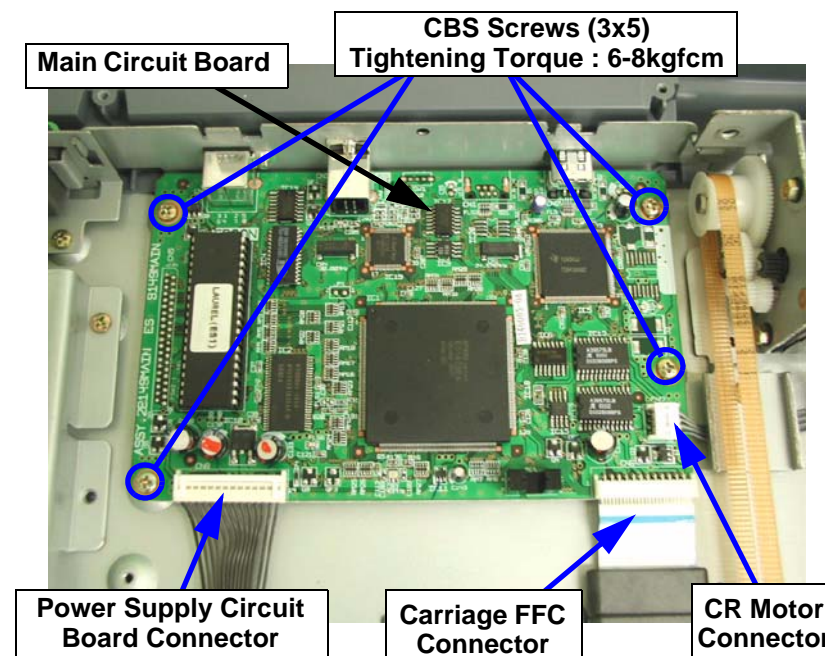

Figure 4-18. Main Circuit Board Removal (2)
6. Disconnect the CR motor connector (CN7), carriage FFC connector (CN6) and power supply circuit board connector (CN8) from the main circuit board. (See Figure 4-18)
7. Remove the four screws (CBS, M3x5) from the main circuit board and the two screws (CP, M3x5) at the back of the scanner, and then remove the main circuit board. (See Figure 4-18 and Figure 4-19)